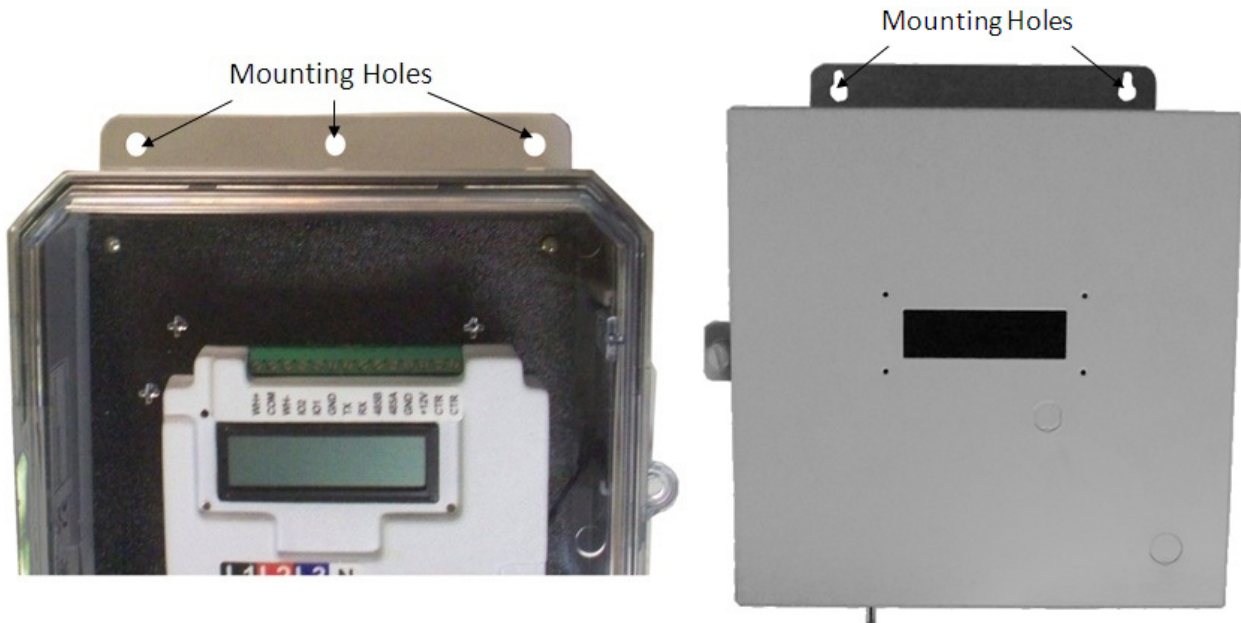

Figure 8: Enclosure mounting holes
1. Fasten the enclosure to the selected surface using the provided mounting holes and screws. Figure 8 depicts the top mounting holes for both enclosures. There are also mounting holes on the bottom of each enclosure. See Section 1.4 for mounting dimensions.